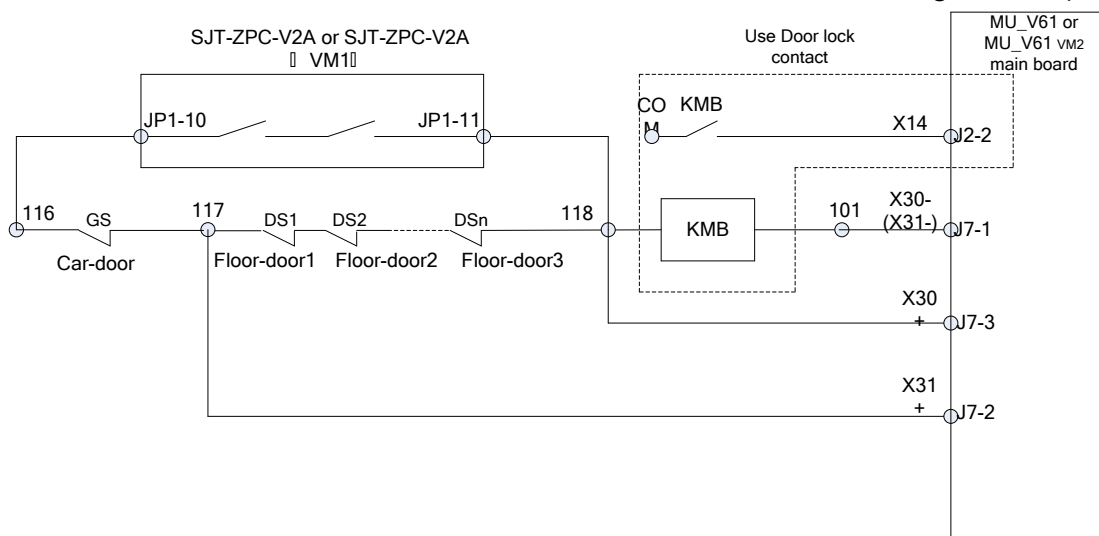

Figure F12.1 V9 Series Elevator Integrated Controller Floor/Car Door Short-circuited Detection Plan
- As shown in figure F12.1, when the car-door is short connected (116 and 117), after the elevator opens, the car-door opens, but the car-door will be checked to be shorted, the X30 is invalid, the X31 is valid, the system will output No. 26 error, and the elevator cannot run with door closed.
- In order to accord with the new national standard (or new inspection rules), the floor-door or car-door is short connected, which can be detected effectively and stop normal operation. As shown in figure F12.1, a safety circuit board (SJT-ZPC-V2A or SJT-ZPC-V2A (VM1)) must be installed, and Advance Door Open function or Re-leveling function is required to be enabled. (F4-06-19 or F4-06-20 must be set to ON).